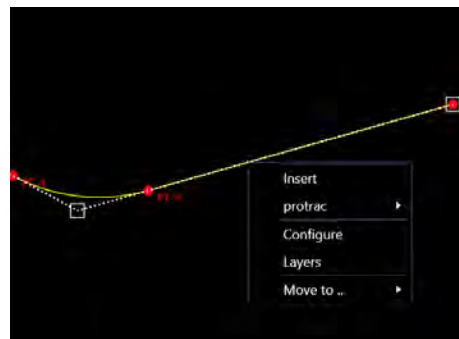

FIGURE 9-15 INSERT NODE POP-UP
4. Right clicking on the line while in Editing Mode will display a context menu with an Insert Node option. Click this option to insert a new node at the mouse coordinates (see Figure 9-15)